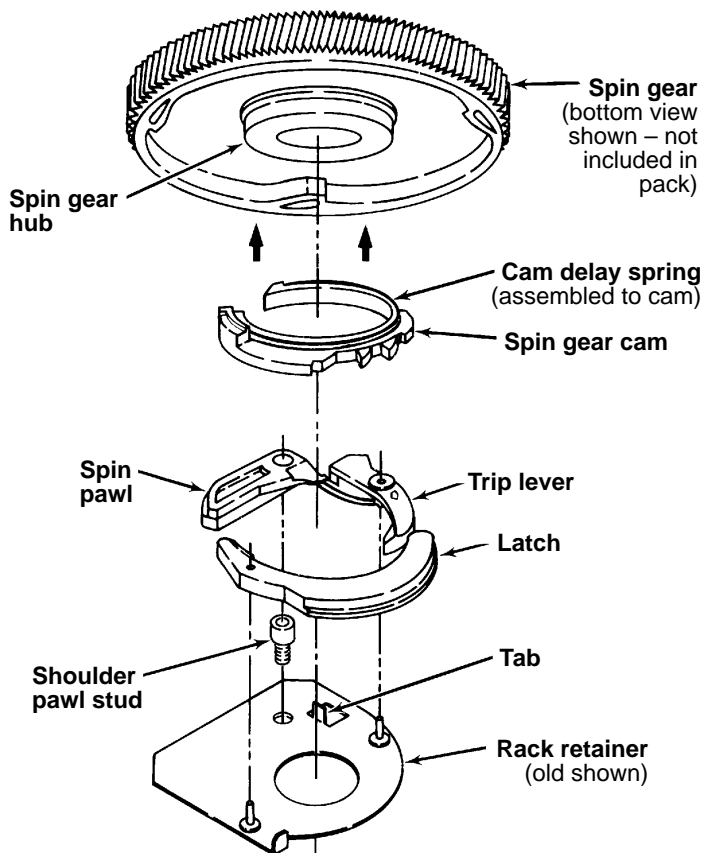

Figure 3
3. If the answer to number 1 is no, then use old retainer rack and small pawl stud (Refer to Figure 3, Rack retainer).